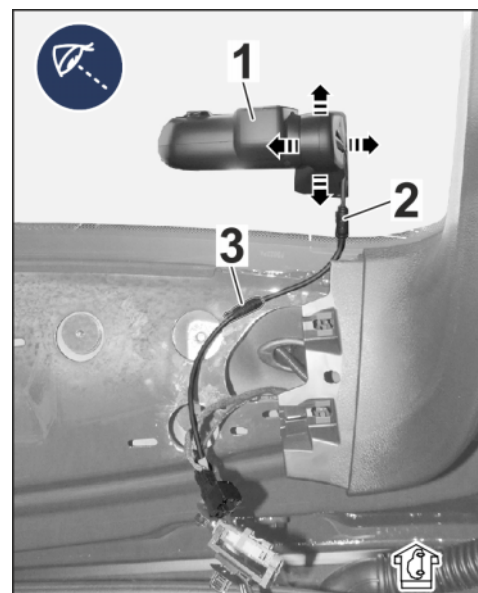

Figure 18 (Example Sport Turismo)
3.4.3 Align rear camera symmetrically with respect to the 3M privacy film on the inside of the rear window, install it and press it firmly onto the rear window. ⇒ *Figure 18 (Example Sport Turismo)*